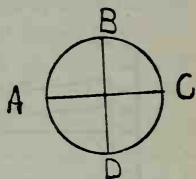

FIG. 43-1—Cross wires of telescopic sights.
**Method of gun laying.**—Most of the guns at the present time have telescopic sights. In a telescopic sight there are two cross wires, a horizontal one and a vertical one, which move as the gun is pointed or trained. In Fig. 43-1, *AC* represents the horizontal wire and *BD* the vertical wire.